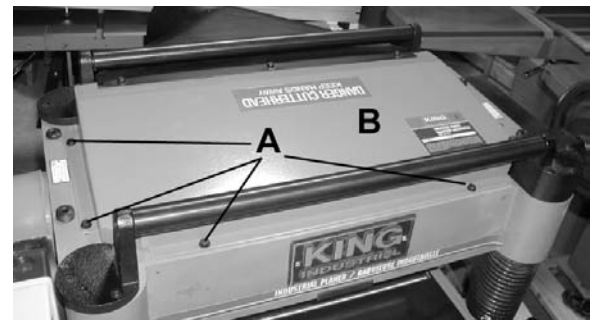

FIGURE 15
2. Remove the six screws (A) Fig.15, and remove the upper cover (B). Only 4 of the 6 screws are shown in Fig.15.